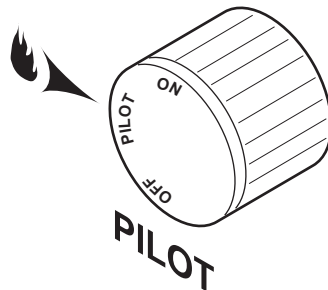

*Figure 49 -
Depress and turn the knob counterclockwise ↺ to the "ON" position. *Figure 49*. It will take less than four (4) seconds for the burner to ignite.